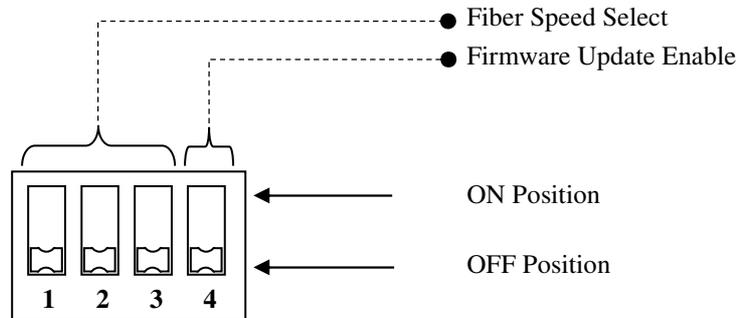

FIGURE 10: OSD2244 4-WAY DIP SWITCH
- Toggle switch 4 to 'on' position (see Figure 10) before unit is powered on.